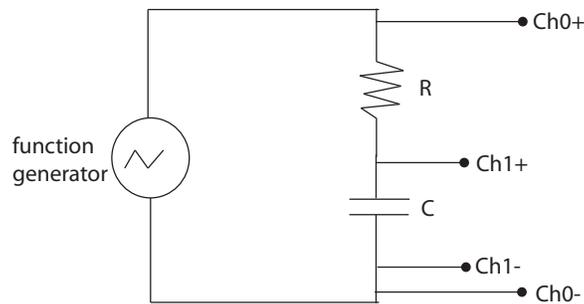

Figure 10: An RC circuit is connected to a function generator to measure the charging of the capacitor as a function of time.
- Choose a resistor and capacitor combination giving a time constant $\tau = RC$ in a convenient range to measure using the ADC in the computer ($\approx 10^{-3}$ seconds). Build a series connection circuit on top of the aluminum break-out box. The circuit you are building is shown in figure 10.